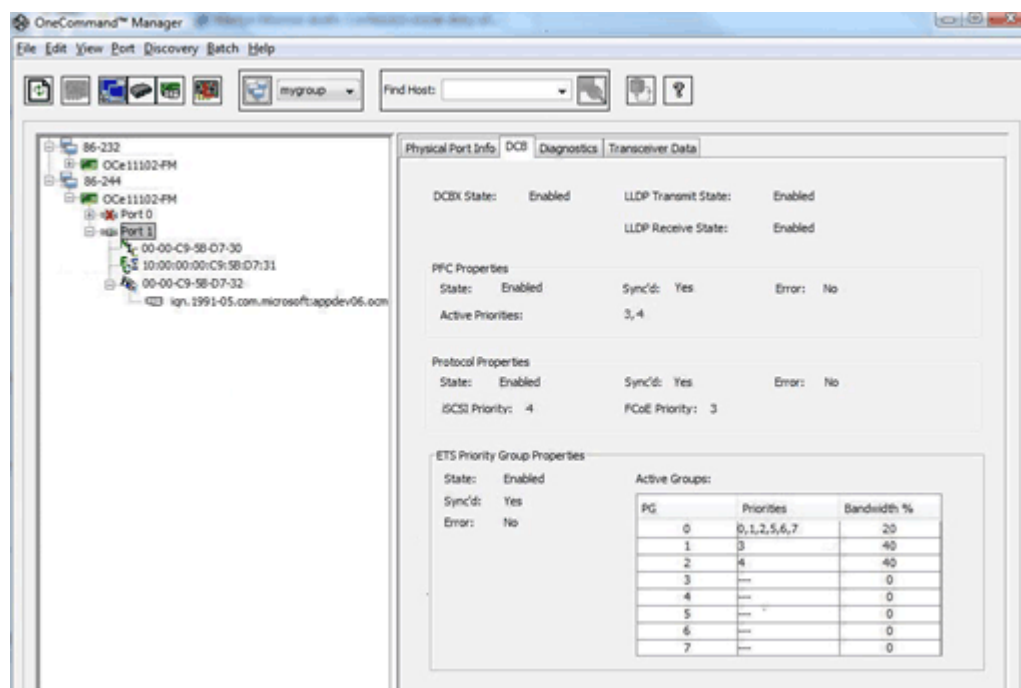

Figure 10-7 DCB Tab (NIC + FCoE + iSCSI adapter port selected)
2. Select the **DCB** tab (Figure 10-7 on page 221).